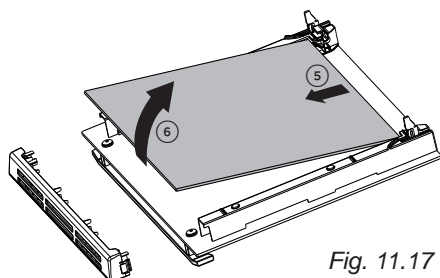

Fig. 11.17
- Gently lift and pull out the middle pane of glass by releasing it from the bottom retaining notches (fig. 11.17).